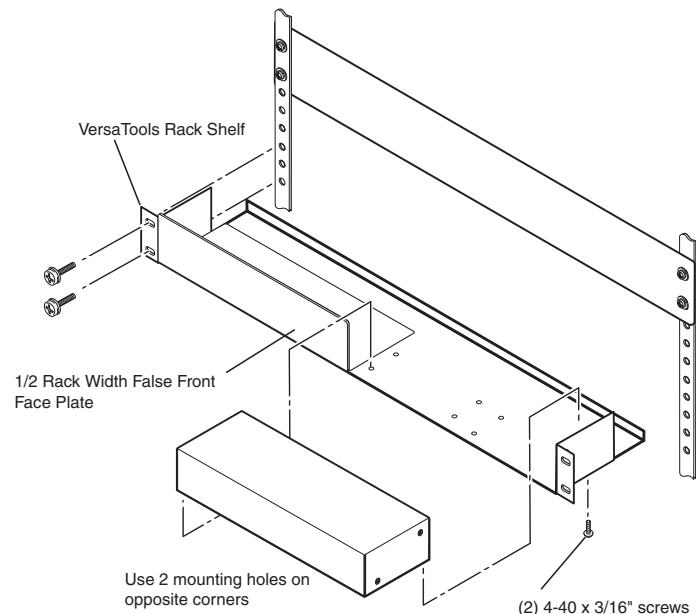
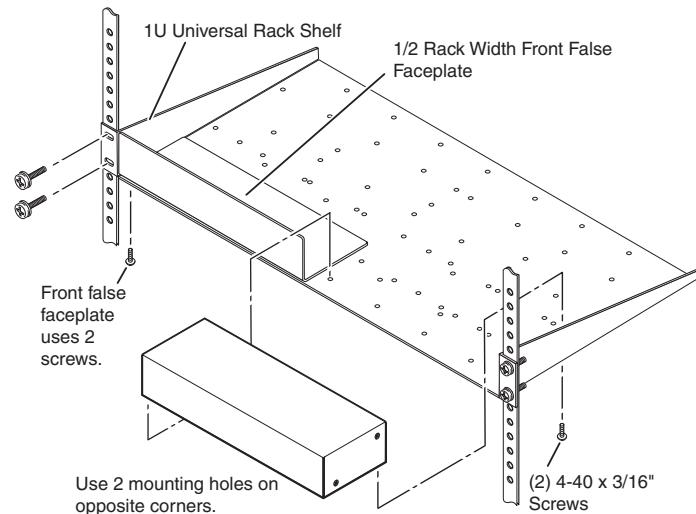

Figure 2-1 — Mounting the SW MTP T on a VersaTools rack shelf
Figure 2-2 — Mounting the SW MTP T on a 1U universal rack shelf
2. Mount the switcher on the rack shelf, using two 4-40 x 3/16" screws in opposite (diagonal) corners to secure it to the shelf (figure 2-1 and figure 2-2).